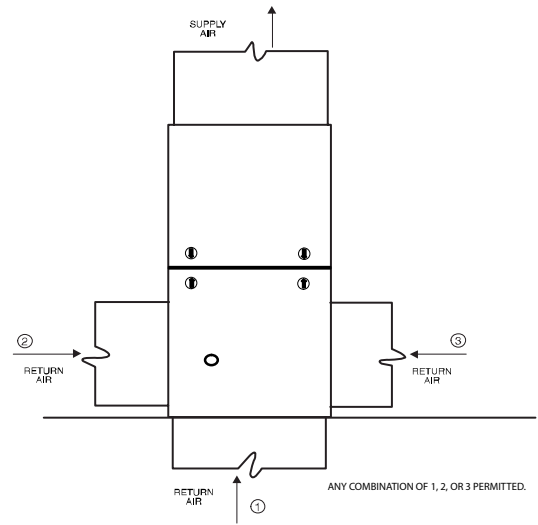
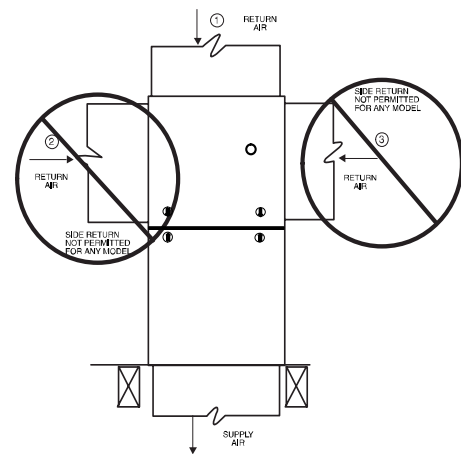

Fig. 21 – Upflow Return Air Configurations and Restrictions
Fig. 22 – Downflow Return Air Configurations and Restrictions
The return-air duct must be connected to bottom, sides (left or right), or a combination of bottom and side(s) of main furnace casing. Bypass humidifier may be attached into unused return air side of the furnace casing. See Fig. 21, Fig. 22, and Fig. 23.
**NOTE:** Side return-air openings can be used in UPFLOW and some HORIZONTAL configurations. Do not use side return-air openings in DOWNFLOW configuration. See Fig. 21, Fig. 22, and Fig. 23.
The return-air duct must be connected to return-air opening (bottom inlet). **DO NOT** cut into casing sides (left or right). Bypass humidifier connections should be made at ductwork or coil casing sides exterior to furnace. See Fig. 22.